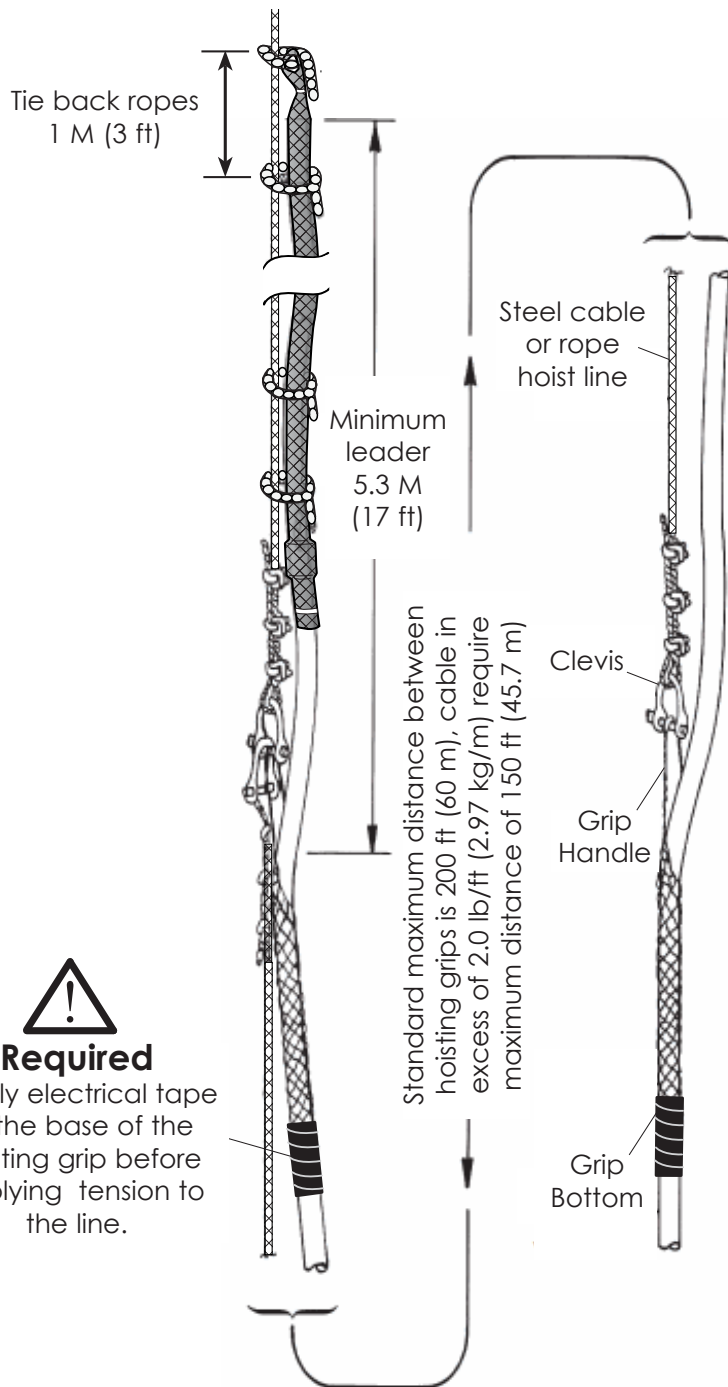

Figure 1
- 1** Place the Hoisting/Support grip(s) at the proper location on the cable as shown in Figure 1. Allow a sufficient length of cable leader to reach the junction point input when cable hoisting and attachment of the grip handle to the support structure is completed.
7 Attach the hoist line to the grip as shown in Figure 1. Tie the cable leader to the hoist line so that the leader does not dangle. Apply tension slowly to the hoist line to allow the hoisting grip to tighten uniformly on the cable.
6a Attach the hoist line to the grip as shown in Figure 1. Tie the cable leader to the hoist line so that the leader does not dangle. Apply tension slowly to the hoist line to allow the hoisting grip to tighten uniformly on the cable.